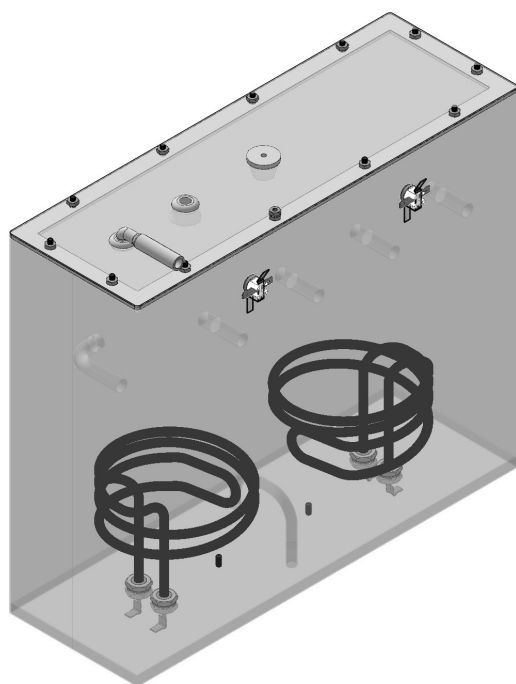

FIG. 20-1 ICB TWIN TANK HEATERS
2. Insert a digital temp probe through the exposed vent hole in tank lid to the same depth as the factory temp probe. FIG 20-1.